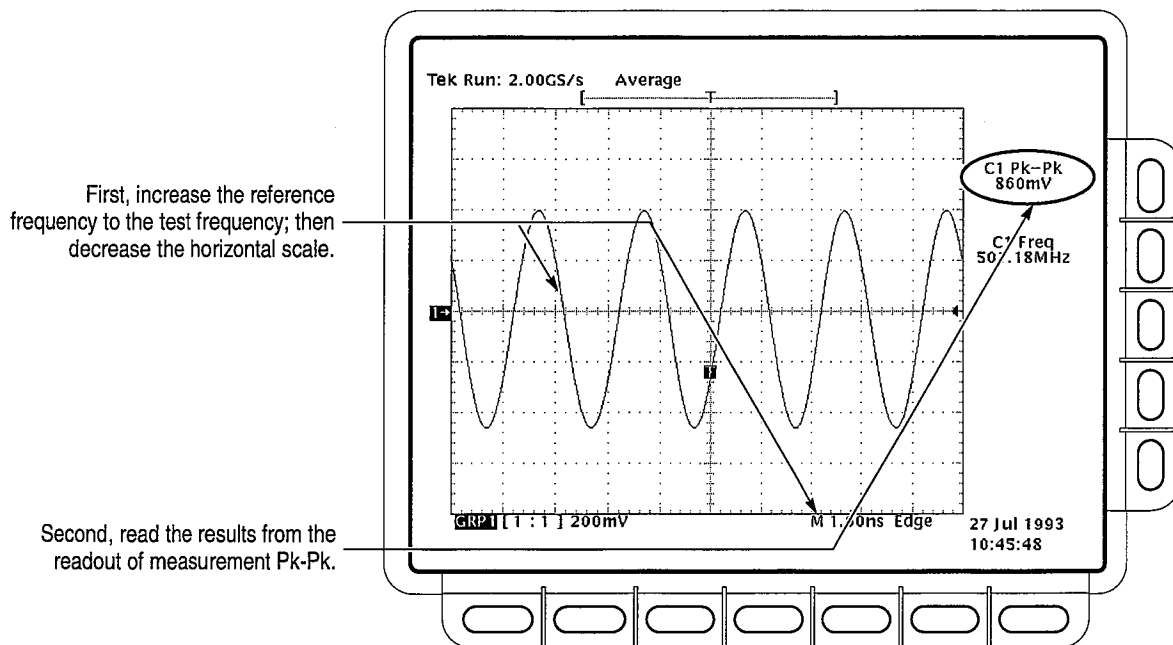

Figure 1-10: Measurement of Analog Bandwidth
- j. Read the results at the **C1 Pk-Pk** readout, which will automatically measure the amplitude of the test signal. See Figure 1-10.